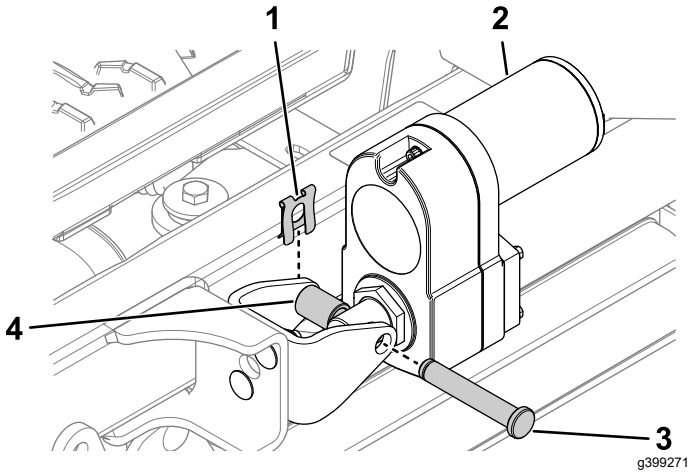

Figure 19
- Secure the actuator to the actuator mount using the clevis pin, the aluminum spacer, and the pin clip as shown in Figure 19.